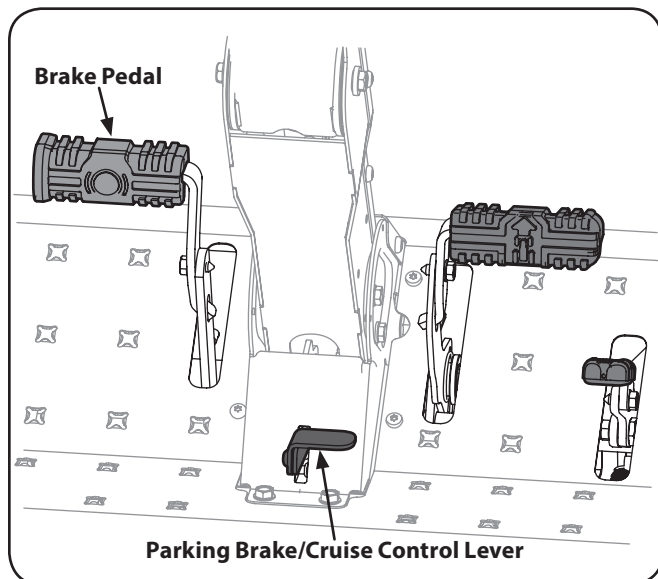

Figure 5-1
3. Engage the parking brake by pressing forward on the brake pedal (○), then press down on the parking break/cruise control lever and then release the brake pedal (○). Refer to Figure 5-1.